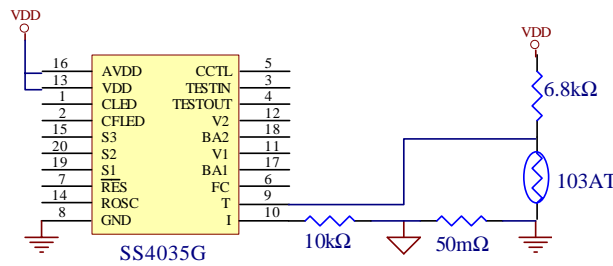

Figure 3. Current Sense and Temperature Sensor
Figure 3 shows the current sense and temperature detect circuit. The SS4035G monitors the charging current by sensing at pin I (10) the voltage drop across a small resistor, connected between VSS (battery negative) and GND (charger ground). The value of this resistor should be between 50mΩ and 150mΩ. To detect the temperature, a negative temperature coefficient thermistor is used as a .